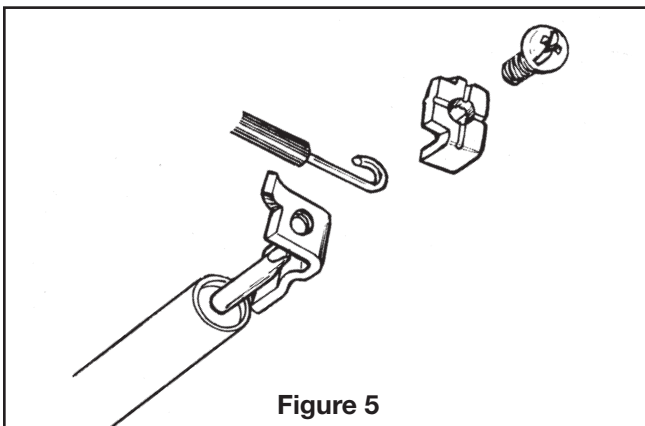

Figure 5
6. Assemble terminal, screw and wire as shown in Figure 5.